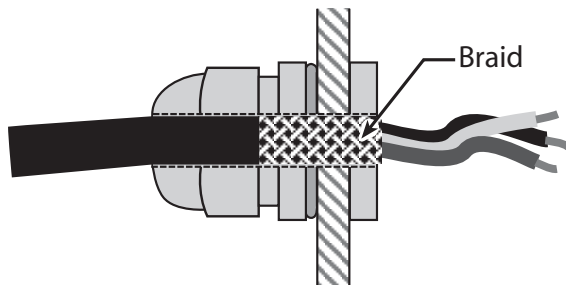

Figure 2-2. Braided Shield Cabling
5. For cables with braided shielding, cut the shield at the same location as the insulation, then strip an additional 15 mm of insulation from the cable to allow the shield to contact the inside of the metal cord grip (see Figure 2-2).
7. Route cables through cord grip so cable shield contacts cord grip fitting as shown in Figures 2-2 and 2-3. Tighten cord grip.